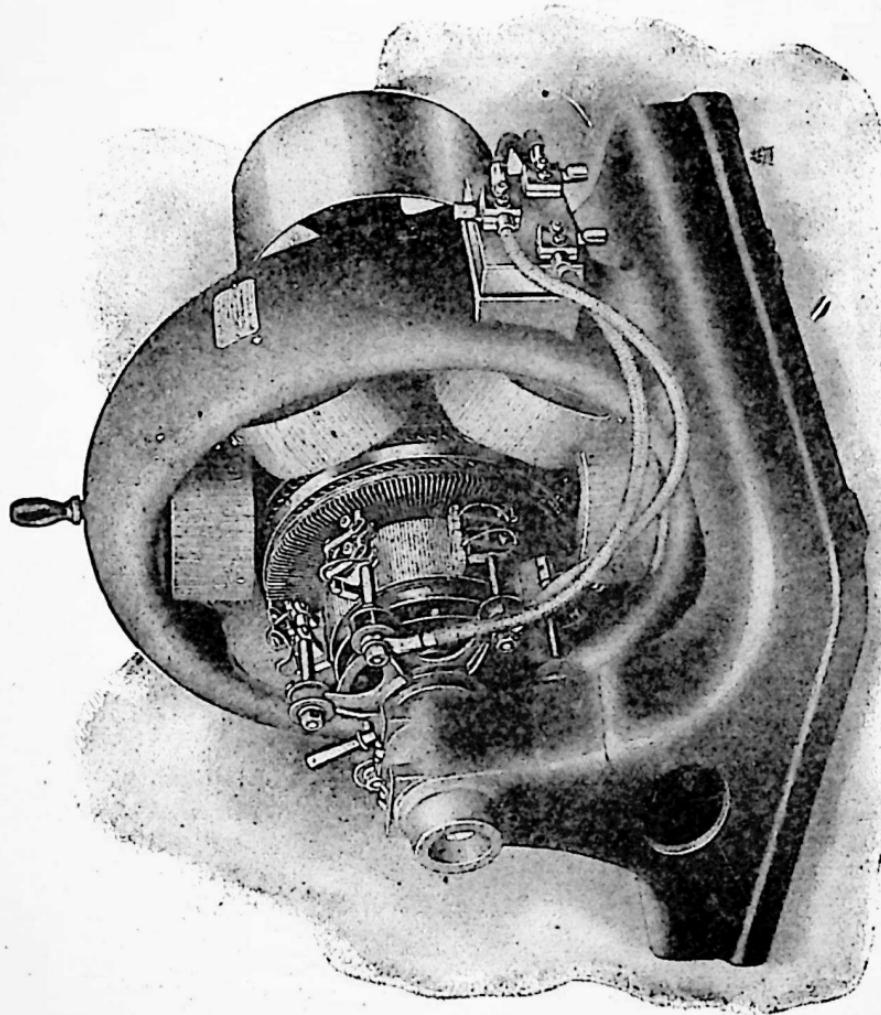
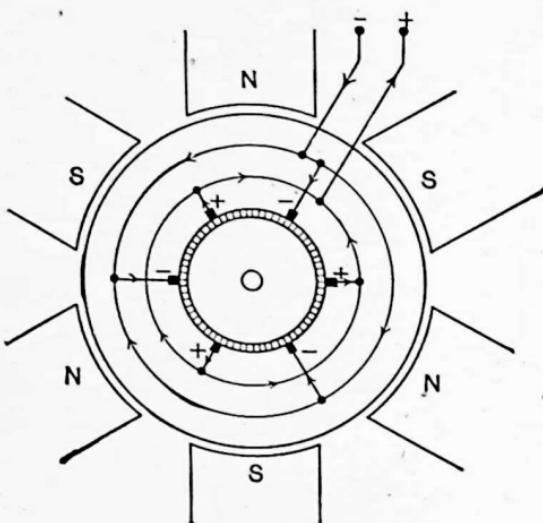

FIG. 130. Fort Wayne six-pole generator.
FIG. 131. Brush connection of the six-pole generator of FIG. 130.
64. Number of Brushes. A generator usually has the same number of sets of brushes as it has poles, not counting commutating poles. Note that the generator in Fig. 130 has six poles and six sets of brushes. Since a machine has but two terminals which are connected to the brushes, several of these sets of brushes must be joined together. Note, in Fig. 131, that every other brush is (+) and that all the (+) brushes are joined together in parallel and brought by leads to the (+) terminal. The remaining sets of brushes are (-) and are joined in parallel and lead to the (-) terminal.